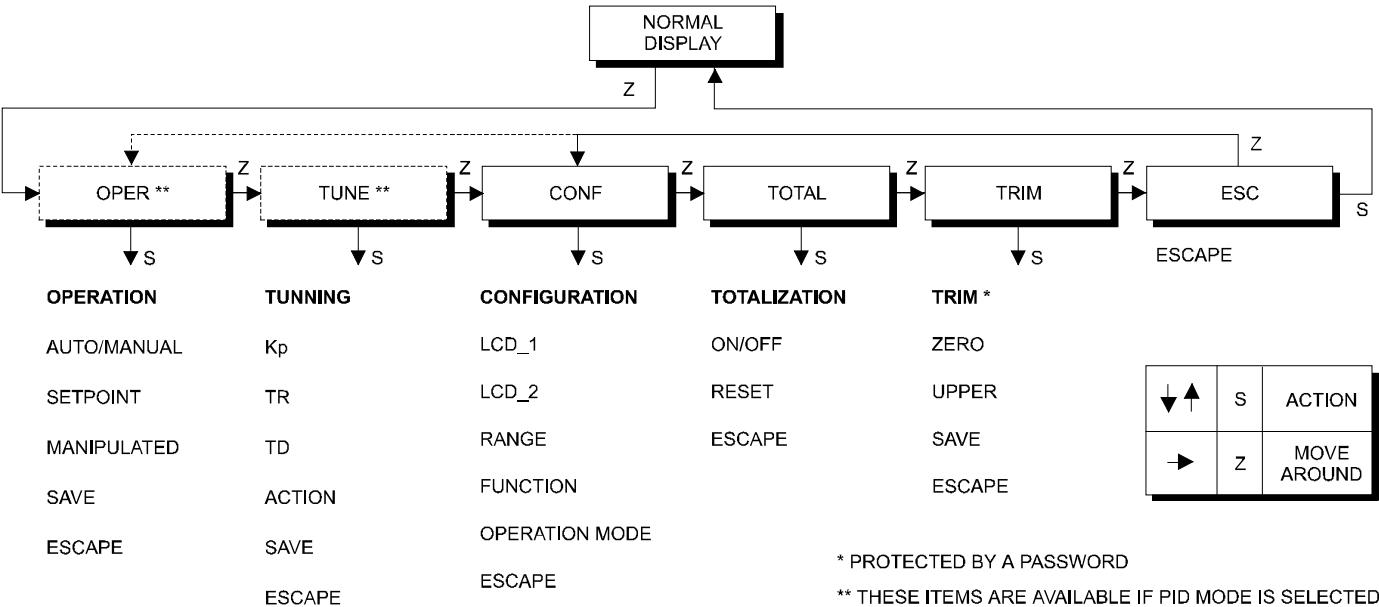

Figure 4.3 – Local Adjustment Programming Tree – Main Menu
- 2 - In order to reach the desired option, browse the options, wait until they are displayed and move the magnetic tool from (**Z**) to (**S**). Refer to Figure 4.3 – Local Adjustment Programming Tree, in order to know the position of the desired option. By placing the magnetic tool once again in (**Z**), it is possible to browse other options within this new branch.
The local adjustment uses a tree structure where, by placing the magnetic tool in (**Z**) it is possible to browse the options of a branch and, by placing it in (**S**); details of the chosen option are shown. Figure 4.3 - Local Adjustment Programming Tree shows the **LD301** available options.